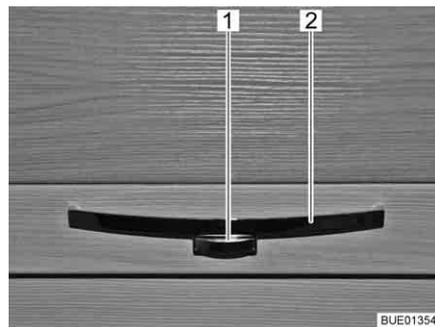

Fig. 69 Furniture flap with handle (example)
- Press the release knob (Fig. 69,1) on the handle (Fig. 69,2) and hold it down.